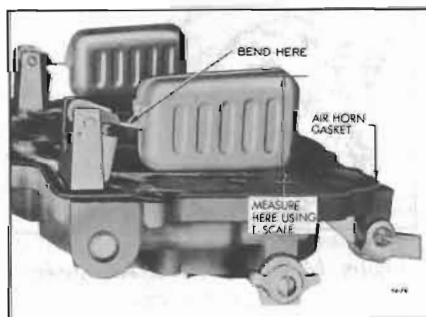

Figure 64-78—Checking Float Level
10. Adjust Float Level. With air horn inverted and air horn gasket in place, check measurement between upper corner of each float (at outer end) and air horn gasket. See Figure 64-78. To adjust, bend float lever. After any adjustment, recheck float alignment.